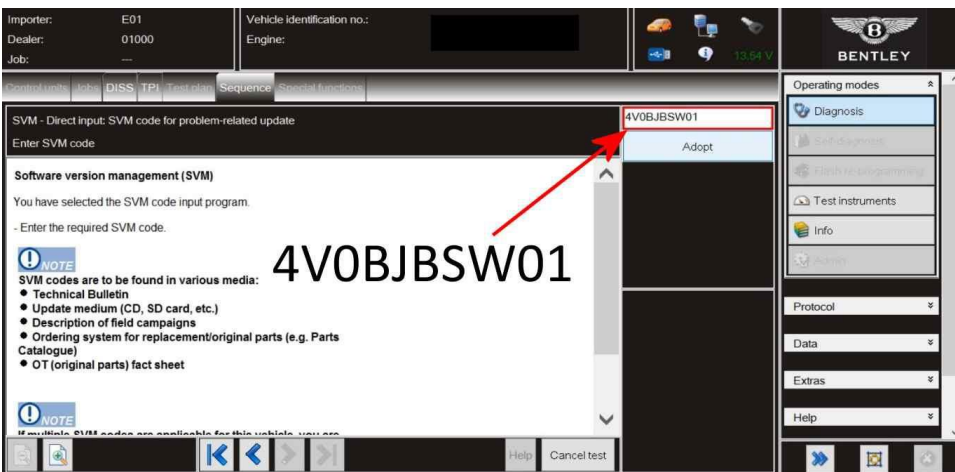

Figure 6
- When prompted enter the SVM code 4V0BJBSW01 and select Adopt (Figure 6)